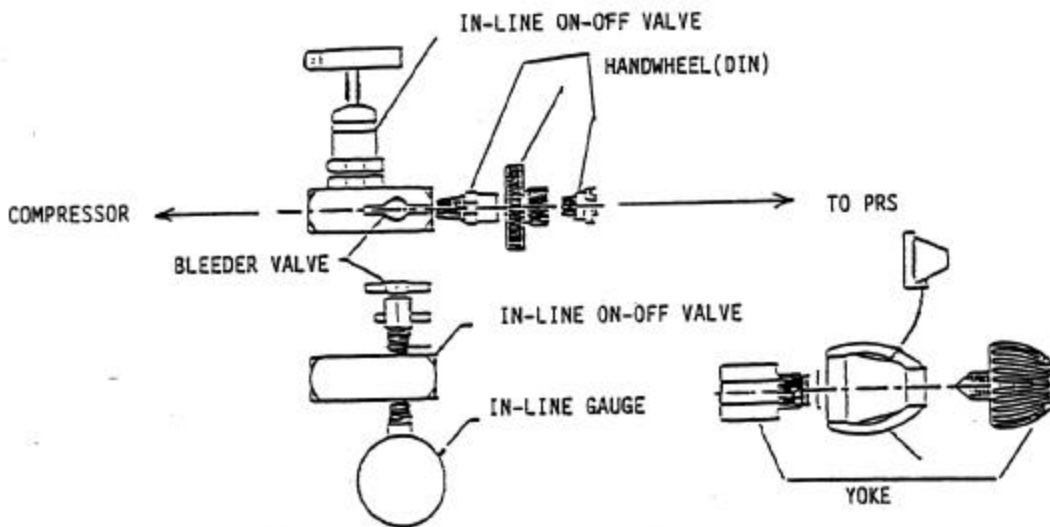

Figure 5-1. Connection of Compressor to PRS Supply Cylinder with Compressor Adapter
- e. Attach the compressor adapter less the yoke assembly (pressure in-line gauge, bleeder valve, in-line ON-OFF valve, and handwheel) to the compressor line, and then to supply cylinder valve inlet. Refer to Figure 5-1. Make sure that all fittings in the system are hand tight.